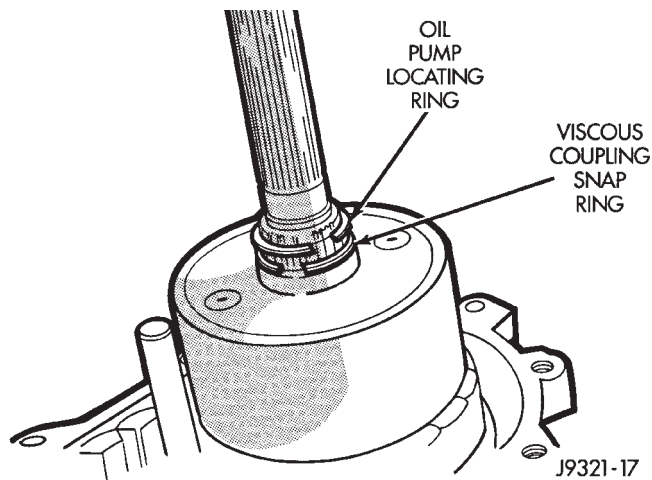

Fig. 17 Oil Pump And Viscous Coupling Snap Ring Locations
(17) Remove oil pump locating snap ring and viscous coupling snap ring from mainshaft (Fig. 17).